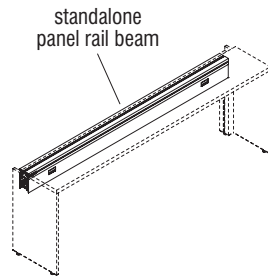

Figure 9
- Panel rail assemblies are always planned in straight rows (Figures 9 & 10).